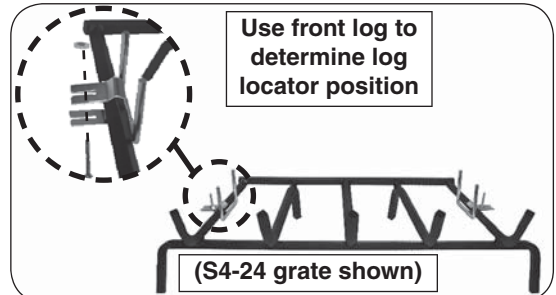

Fig. 19-3 Attach log locators to grate
1. Locate the grate (outside of the fireplace) and attach the log locators to the 2 outer bars of the grate using the provided screws and nuts (see Fig. 19-3).